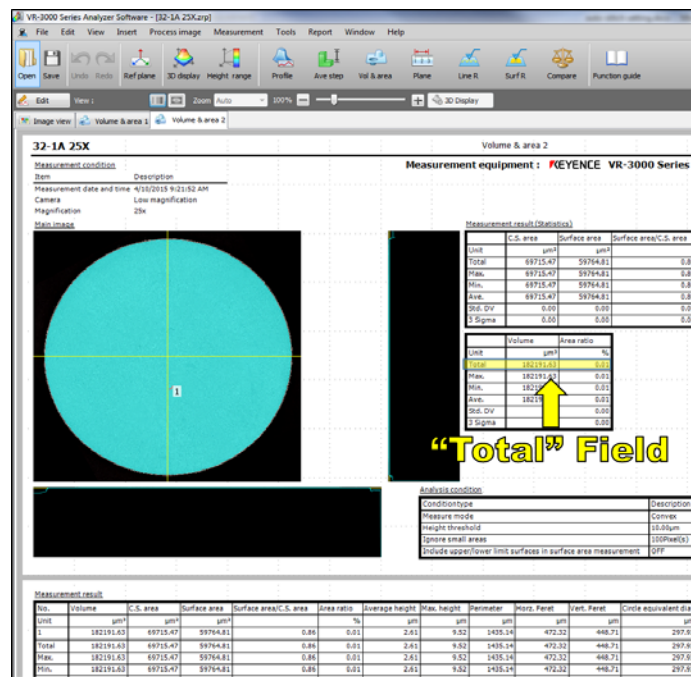

Figure 14 - Critical Data on Volume & Area 2 Tab
6.2.1. The volume data from the **Total** row of the *volume vs. area ratio* table (Figure 14) needs to be reported in the final test report as the post-test high spot volume.